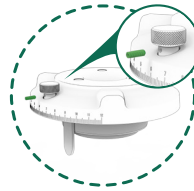
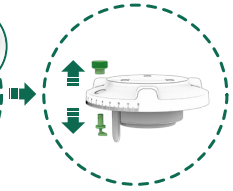

Fig. 17
Fig. 18
The silicon curtain, located inside the coffee spout, ensures dose regularity and reduces static electricity. It can be replaced after removing the regulator from the grinder (Fig. 13) Remove the screw with a Hex Allen screwdriver #2 located in the adjusting brake (7) (Fig. 17). Remove the regulation brake by pulling upwards and downwards (7) (Fig. 18).